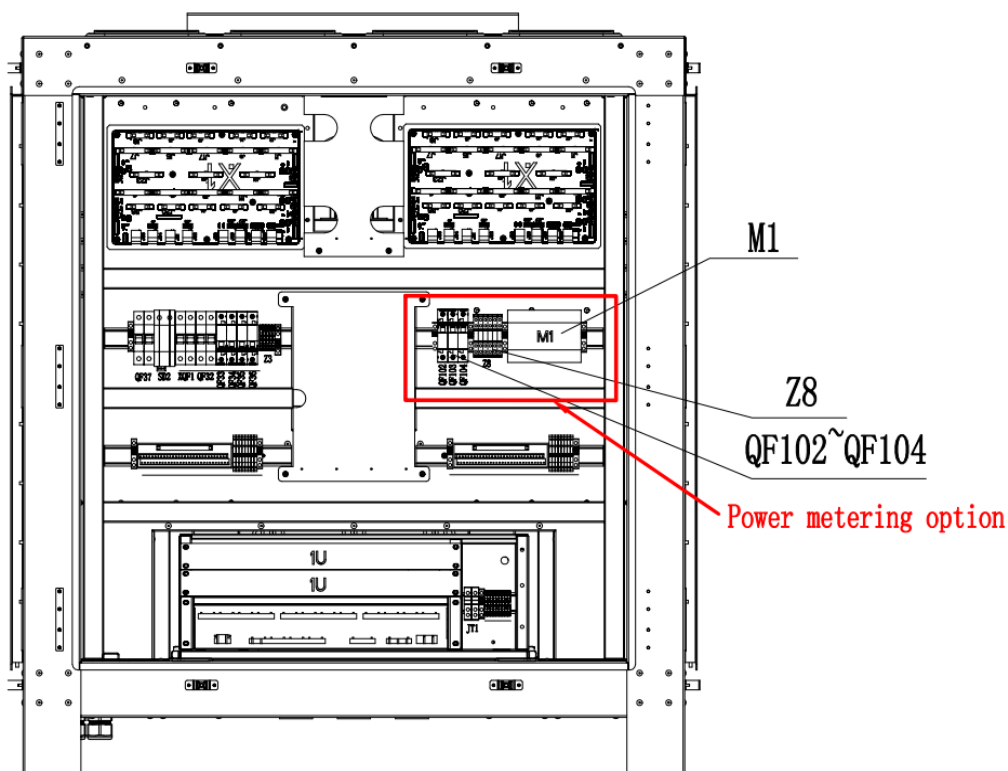

Figure 3-15 Installation location of the power metering option
- The installation position of the power metering option in the integrated energy storage power station is shown in Figure 3-15,3-16,3-17*;